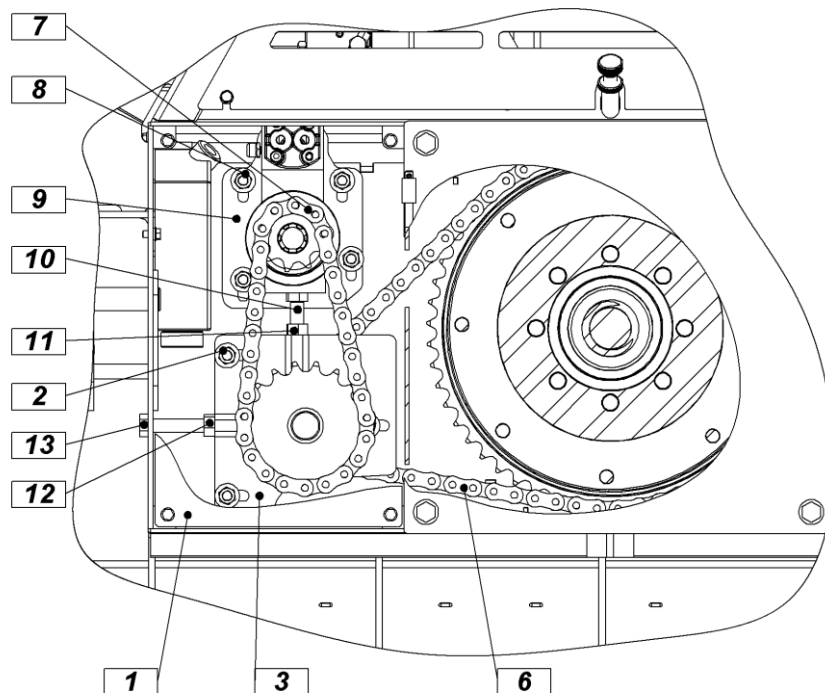

Figure 12
After a certain period of operation (10 hours), the drive chain stretches; therefore it must be checked frequently and tensioned, if required. It must be checked every 500 hours of operation. Tensioning is done according to the following procedure (figure 12)! First, disengage the PTO shaft and turn off the engine. Remove the protective sheet of the PTO shaft (pos. 1, fig.12).
Loosen the nuts (pos. 2, pos. 8, fig. 12), which fix the lower drive (pos. 3, pos. 9, fig. 12). **Then loosen the safety nut (pos. 12, fig. 12) and use screw (pos. 13, fig. 12) to tension the longer chain (pos. 6).** Turn this screw to the right until you set the correct tension of the chain. Chain is correctly tensioned when it still swings approx. 3 to 4 mm in the transverse direction. **Them, with the counter-nut (pos. 12, fig. 12), tighten the screw, which prevents the tensioning device to loosen.**
Now securely tighten all four nuts on the lower drive (pos. 2, fig. 12). Then start to tension the shorter chain (pos. 8, fig. 12). **If you have already loosened the four nuts (pos. 8, fig. 12), loosen the nut (pos. 11, fig. 12) and start turning the tensioning screw (pos. 10, fig. 12) to the left.** This increases the distance between both housings. **When the chain (pos. 7, fig. 12) is properly tensioned, tighten the nut (pos. 11, fig. 12) and other nuts (pos. 8).**